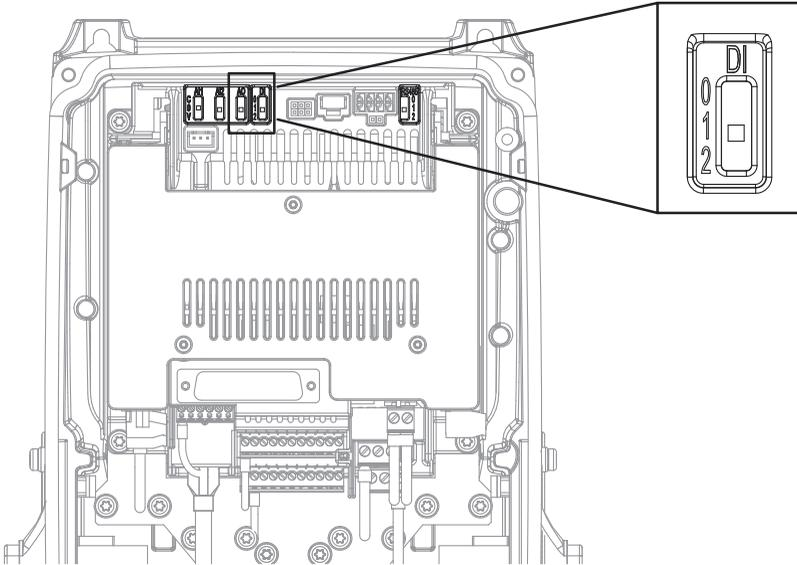

Fig. 30 Digital inputs dip switch
The Grundfos RSI drive embodies five so-called dip switches that allow for three functional selections each. The shadowed terminals in the table of section 5.1.2 Standard I/O terminals can be functionally modified with the dip switches. The switches have three positions: C, 0 and V. The switch in the position "C" means that the input or the output has been set in current mode. The switch in the position "V" means voltage mode. The middle position "0" is for Test mode. See fig. 30 to locate the switches and make appropriate selections for your requirements. Factory defaults are: AI1 = V; AI2 = C, AO = C.
4. If Grundfos RSI AC drive is the last device on the bus, the bus termination must be set. Locate the DIP switches to the top of the control unit (see fig. 30) and turn the right most switch to position "1". Biasing is built in the termination resistor. See also step 6.